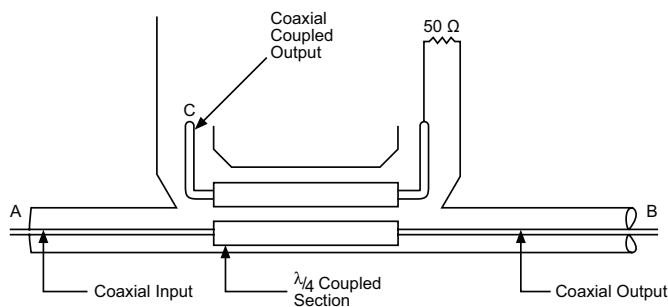
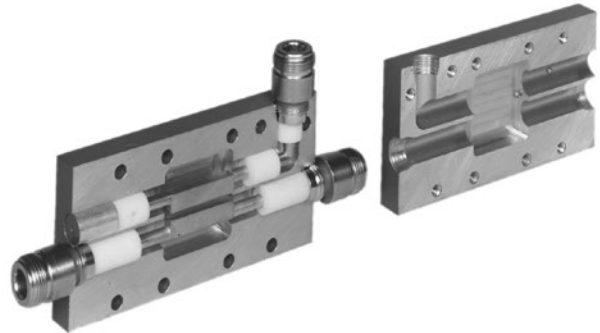

Figure 1. Diagram of a typical directional coupler
Figure 2. Internal view of a typical coaxial coupler
The basic construction of a coupled-line directional coupler can be seen in Figure 1, which illustrates a typical coaxial-line, microwave directional coupler such as might be used for microwave applications. It consists of two parallel striplines coupled over a length of approximately one-quarter wavelength. The mainline input (A) and output (B) coaxial lines are connected to one stripline; the other stripline is terminated in Z_0 at one end, and is connected to the coupled output port through a coaxial line (C). The two sections, referred to respectively as the main and auxiliary lines, are separated from each other except for the coupling area, through which energy is unidirectionally coupled from the main line to the auxiliary line. An internal view of a typical Narda coaxial coupler is shown in Figure 2.